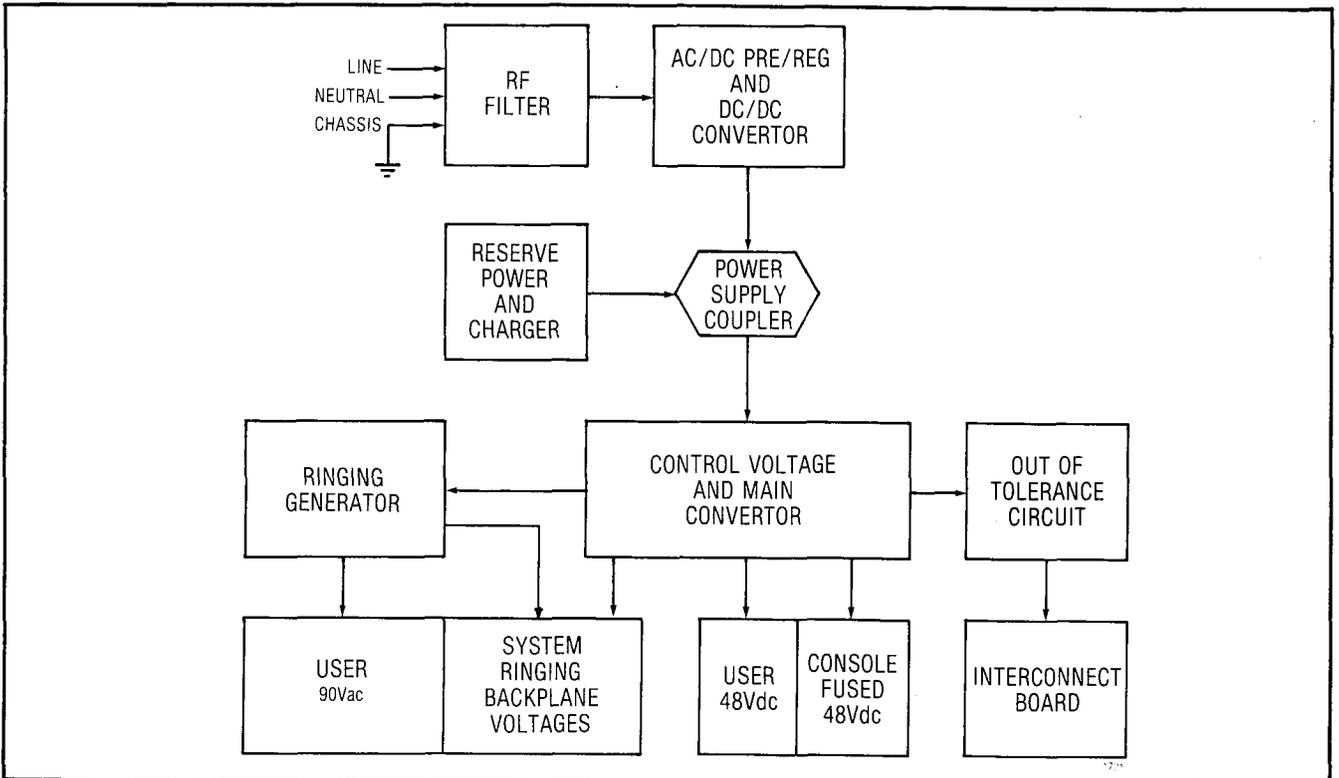

Fig. 6-7 Power Supply Block Diagram
6.04 When troubleshooting the systems for power failures the Power Supply Block Diagram (Fig. 6-7), and Charts 6-1 through 6-10 should be consulted. The Charts outlined cover the trouble and it's effect on the System. In most cases the repair person will be directed to a specific MAP for remedial action. Under the heading "Check" a yes answer to the question asked, is an indication to go on to the next question in the "Check" column. If a no answer is encountered the repair person should go to the "Action" column and follow the instructions listed there. There is also a column indicating by a X to which system the action applies. Above all it must be remembered that fuse replacement is not a remedy. The cause of a power failure should be determined before the system is powered up. Utilizing the information provided in this section and the MAPs referred to in Charts 6-1 through 6-10, the repair person should be able to pin point faults and take proper replacement action. At all times the repair person should follow all safety precautions suggested in the MAPs to ensure maximum personal and equipment safety.